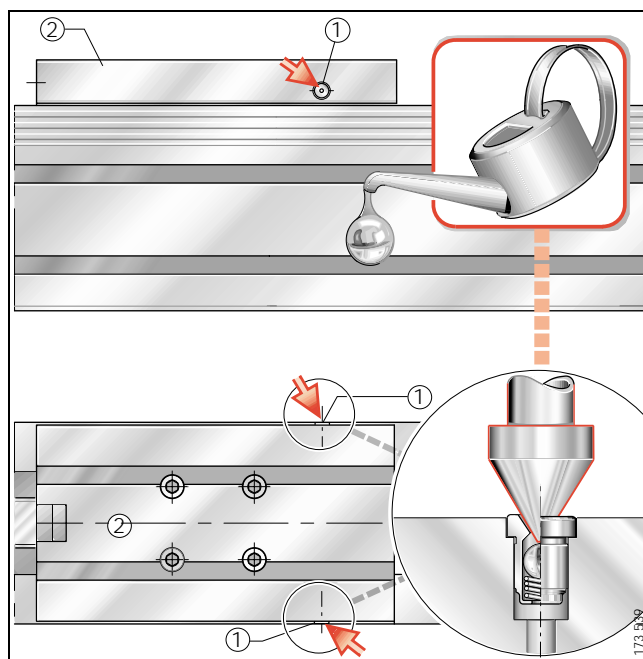

Figure 3 · Lubrication points – MKKUSE 20 ZR
Relubrication should preferably be carried out with several partial quantities at various times instead of the complete quantity at the time of the relubrication interval. Relubrication is carried out via two funnel type lubrication nipples to DIN 3 405-D6 ① on the longitudinal faces of the carriages ② (Figure 3). Relubrication can therefore be carried out from either the left or right side of the carriage.